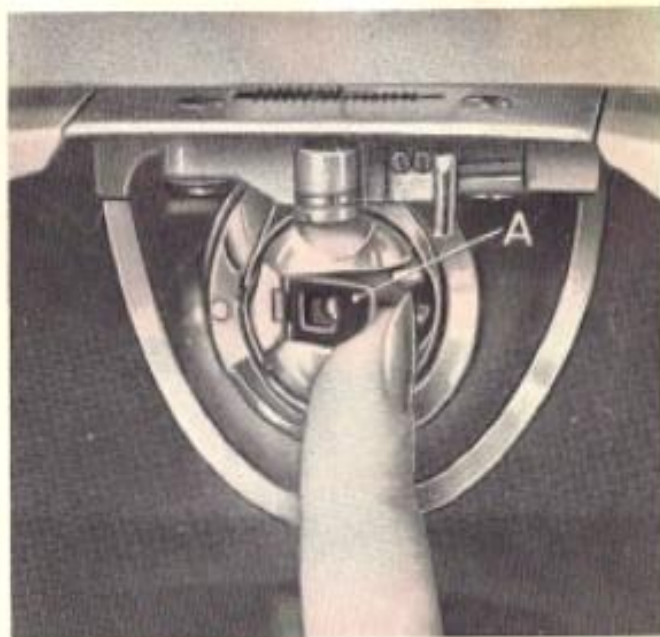

Fig. 8
- c) Lift the latch of the bobbin case (Fig. 8) and remove bobbin case and bobbin.
See Fig. 8; the latch « A » must always be kept horizontally.